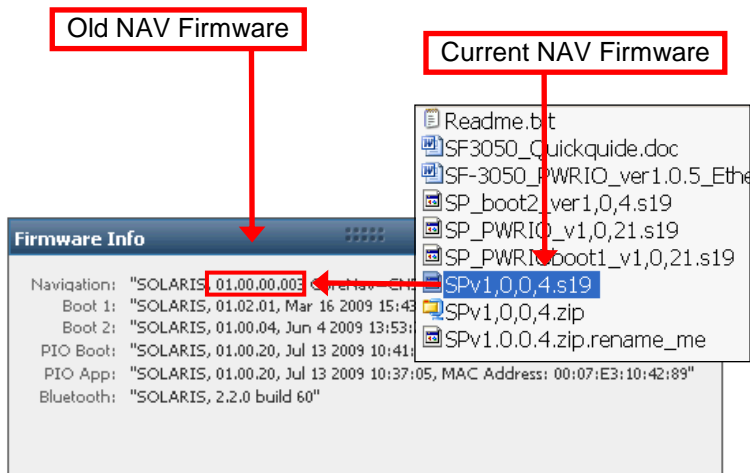

Figure 10: Comparing Current and Installed Firmware
20. Compare the current NAV Firmware version in the Firmware folder with the installed version displayed in the *Firmware Info* window (see Figure 10).